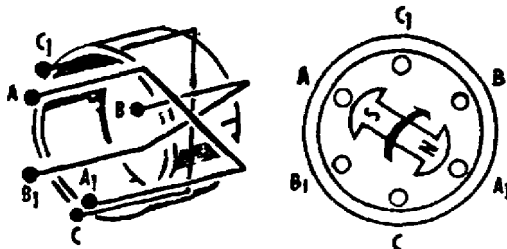

Figure 23. Three-phase operation.
a. The single loop of wire acting as a stator winding, and the bar magnet acting as the rotor, serve to illustrate how an AC voltage is produced in a basic generator. When two more separate loops of wire, spaced  $120^\circ$  apart, are added to our basic generator, two more separate voltages will be produced (fig 23).